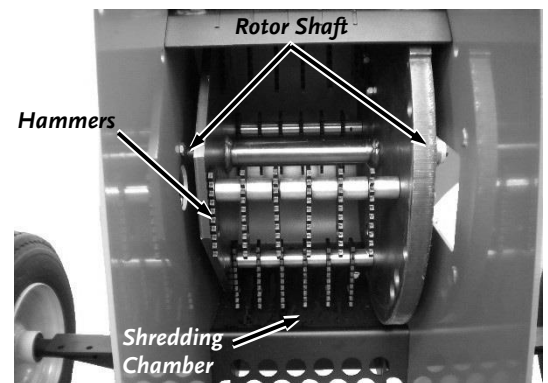

Figure 17
6. Remove any debris wrapped around the Rotor Components or collected in the Shredding Chamber or Screen (**Figure 17**).